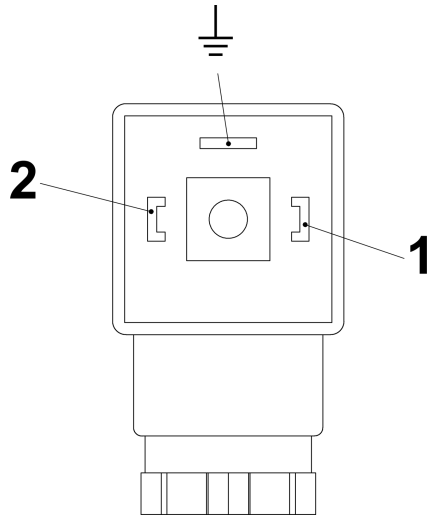
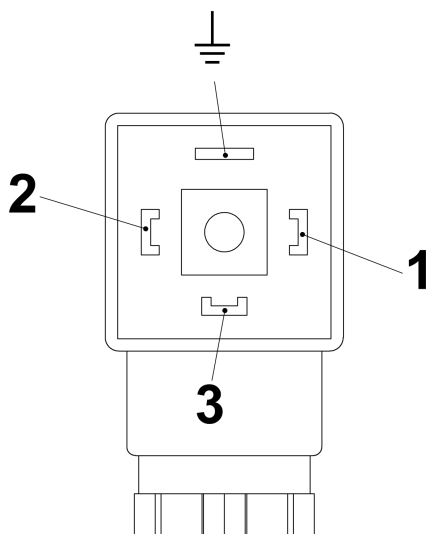

Fig. 26: Pin assignment, plug socket, normally open contact (SG-30 with connector in compliance with EN175301-803)
Fig. 27: Pin assignment, plug socket, change-over contact (SG-30 with connector in compliance with EN175301-803)
6. ➔ Make the connections as shown in the connection diagram (Fig. 26 and Fig. 27).